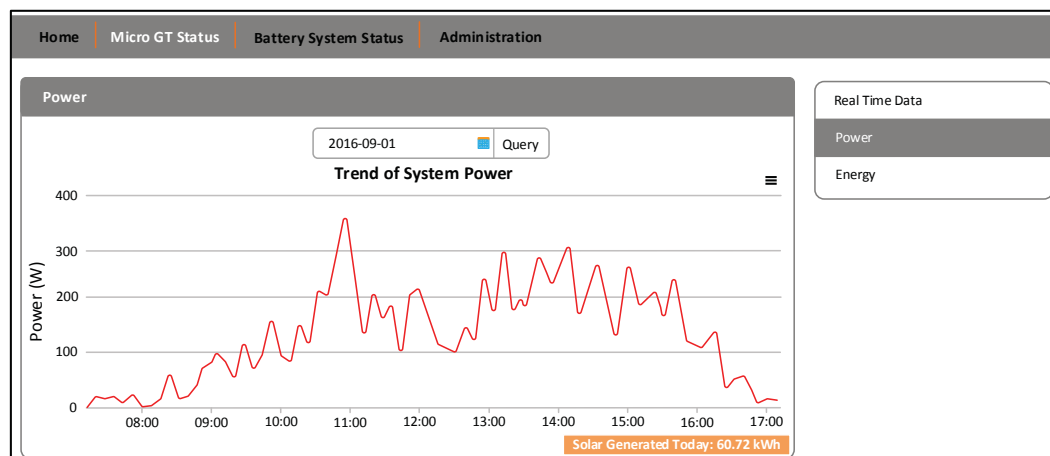

Figure 23, System Power Trend Screen
- From the *Micro GT Status* tab, click *Power* from the list at right. The Power screen appears (Figure 23).